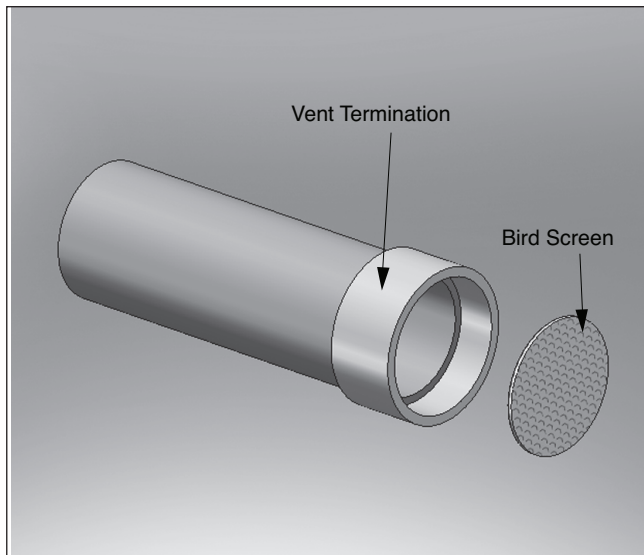
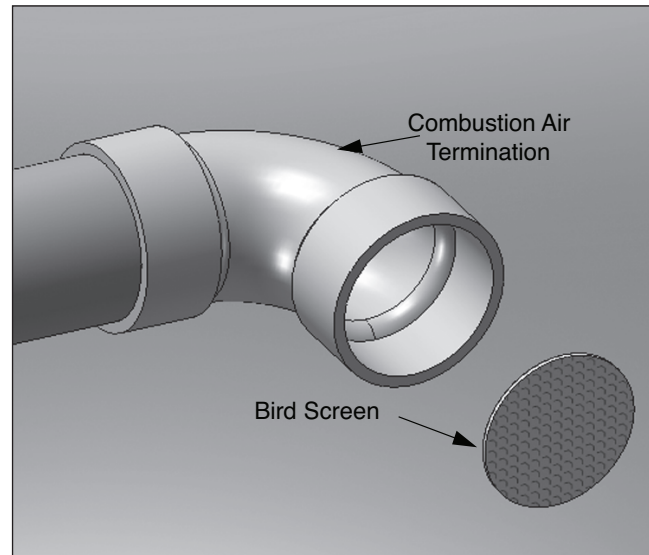

Fig. 9 - Sidewall Vent Bird Screen Installation
Fig. 10 - Sidewall Combustion Air Bird Screen Installation
1. The vent and combustion air terminations must include a factory supplied "bird screen" installed as shown in **Fig. 9 and Fig. 10 on page 20**.
1. The vent and combustion air terminations must include a factory supplied "bird screen" installed as shown in *Fig. 3 on page 16* & *Fig. 10 on page 20*.